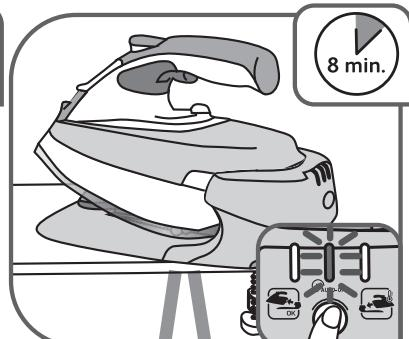

Fig.16\*
- Flashing orange light (according to model): Auto-Off function activated (see the section “Auto-Off safety”) – **fig.16**.